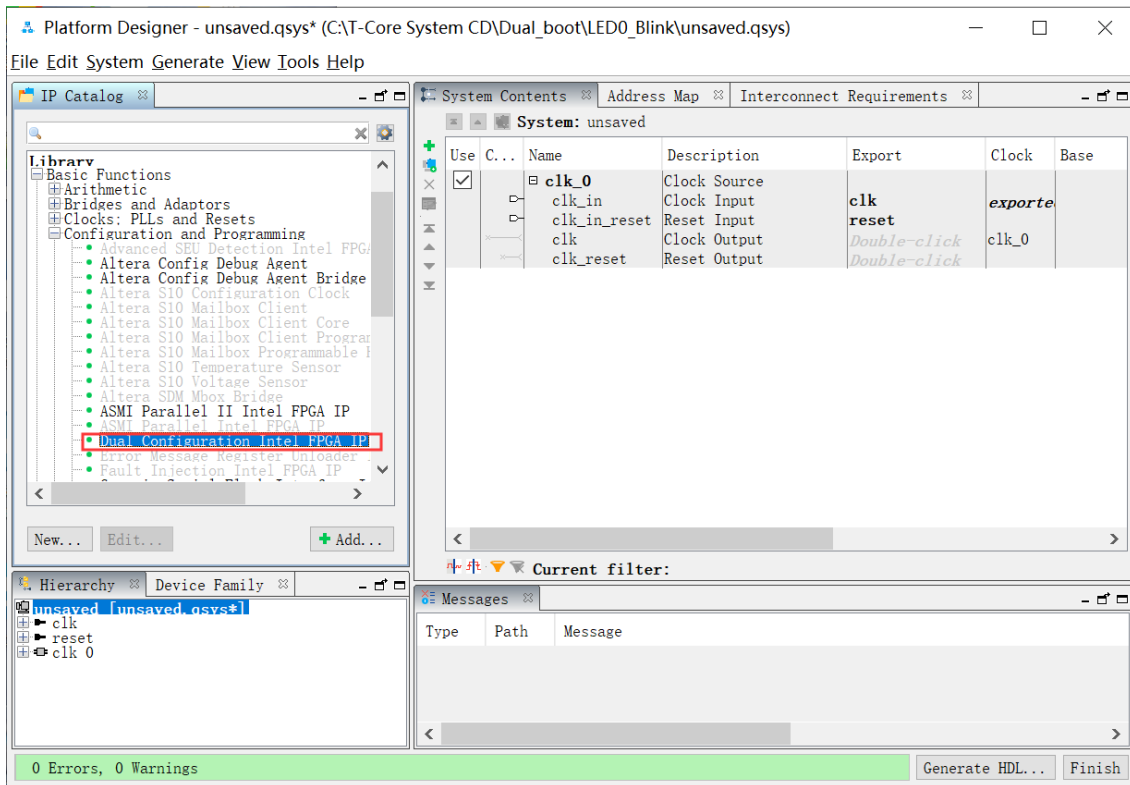
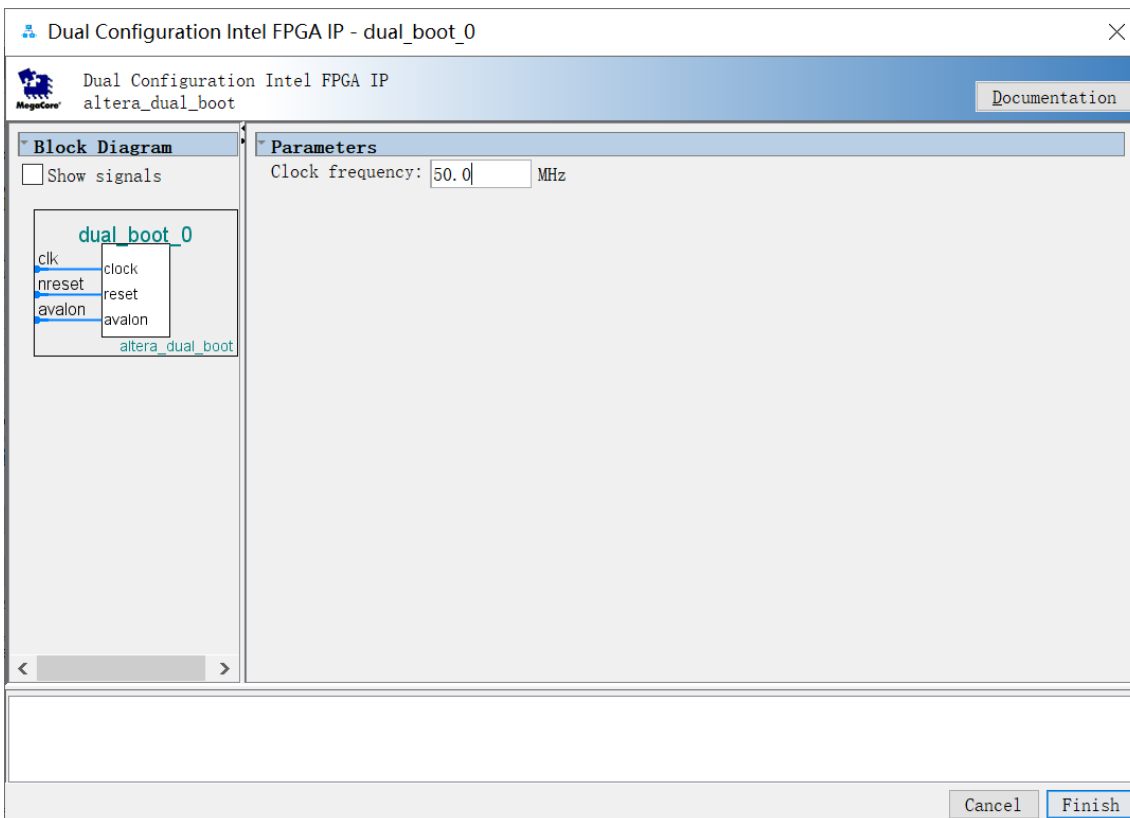

Figure 4-5 Select Dual Configuration Intel FPGA IP and click.
Figure 4-6 Open wizard and click Finish.
2. Please choose **Library > Basic Function> Configuration and Programming > Dual Configuration Intel FPGA IP** to open wizard of adding dual boot IP. See **Figure 4-5** and **Figure 4-6**.